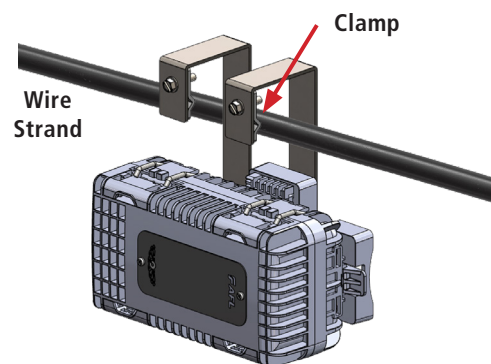

Figure 47
4. Insert the strand wire/cable on the Clamp. Hand tight the hex nut using wrench as tight as possible. (Figure 47)